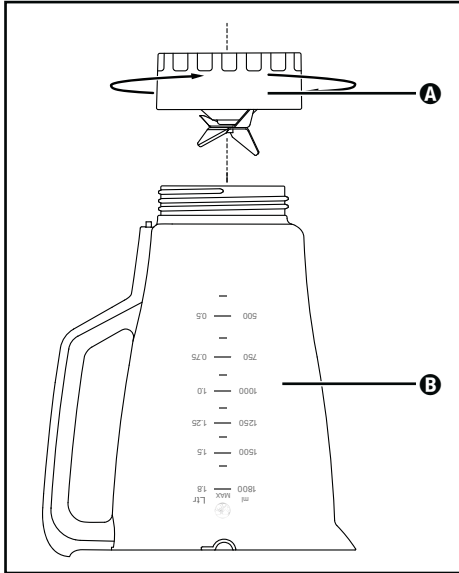

Fig. 3
- 2) Turn the appliance upside down and turn the attachment **A** anticlockwise so that it can be detached from the jug **B** (see fig. 3).